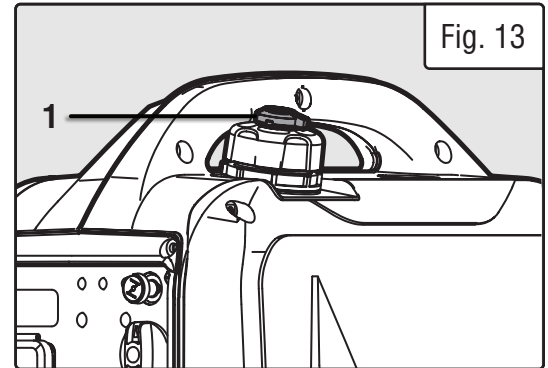

Fig. 13
4. Close the vacuum relief valve (Fig. 13 - 1) on top of the fuel cap by rotating it counterclockwise to the OFF position.